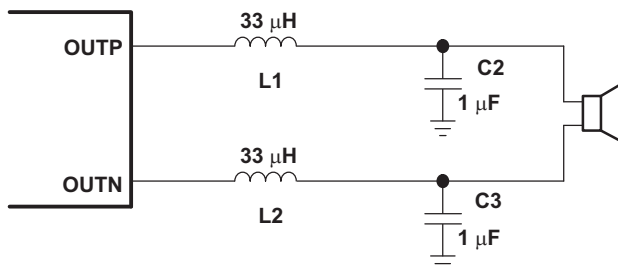
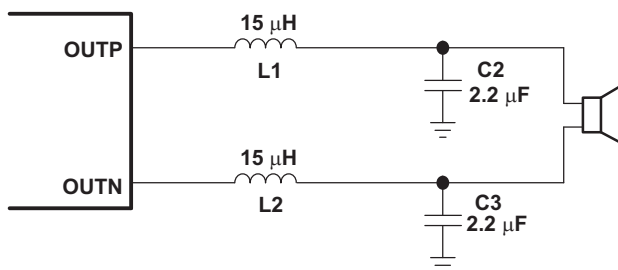
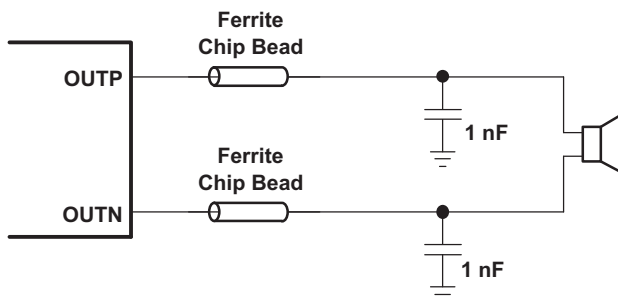
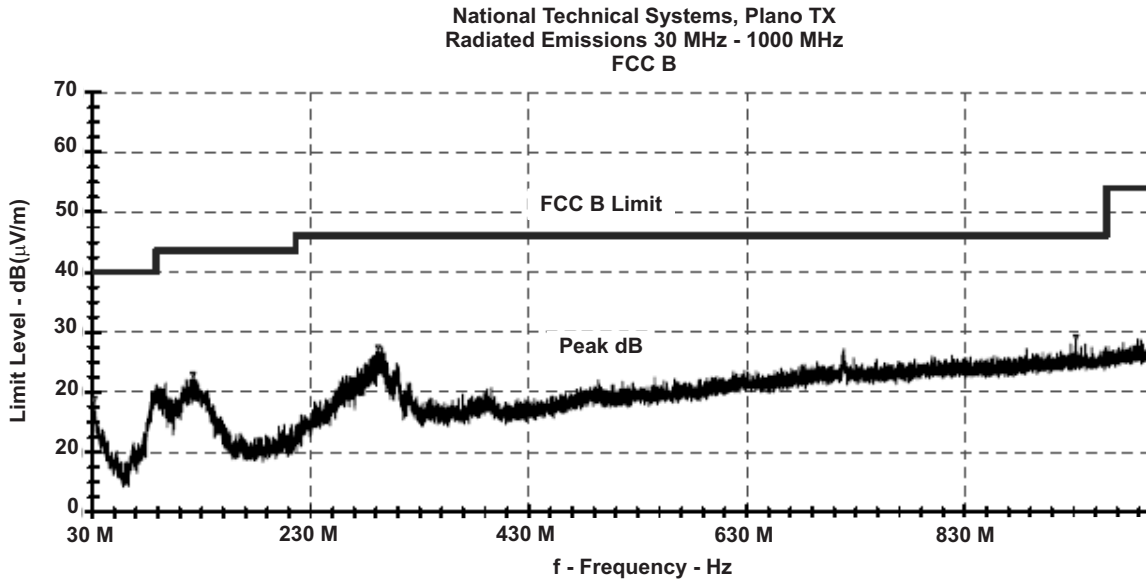

Figure 27. Typical LC Output Filter, Cutoff Frequency of 28 kHz, Speaker Impedance = 8 Ω
Figure 28. Typical LC Output Filter, Cutoff Frequency of 28 kHz, Speaker Impedance = 4 Ω
Figure 29. Typical Ferrite Chip Bead Filter (Chip Bead Example: Fair-Rite 2512067007Y3)
Figure 30. Radiated Emissions Prescan 30 MHz - 1000 MHz
Using the LC filter in Figure 27, the TPA3100D2 EMI EVM passed the FCC Part 15 Class B radiated emissions with 21-inch speaker wires. Quasi-peak measurements were taken for the 4 standard test configurations, and the TPA3100D2 EVM passed with at least 17-dB margin. A plot of the peak measurement for the horizontal rear configuration is shown in Figure 30.
- Output filter—The ferrite EMI filter (Figure 29) should be placed as close to the output terminals as possible for the best EMI performance. The LC filter (Figure 27 and Figure 28) should be placed close to the outputs. The capacitors used in both the ferrite and LC filters should be grounded to power ground. If both filters are used, the LC filter should be placed first, following the outputs.